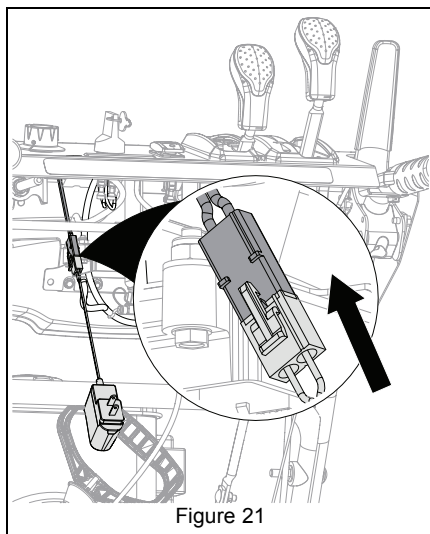

Figure 21
2. Connect battery connector to charger. See Figure 21.